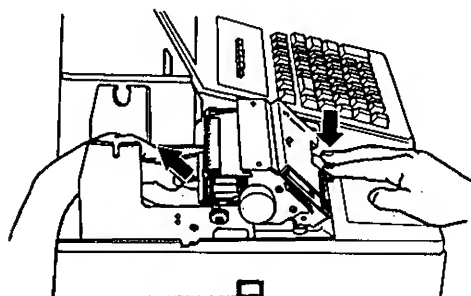

Fig. 7
2. Press the Free Lever down and pull the old paper core upward to remove the remaining paper end (Fig. 7).